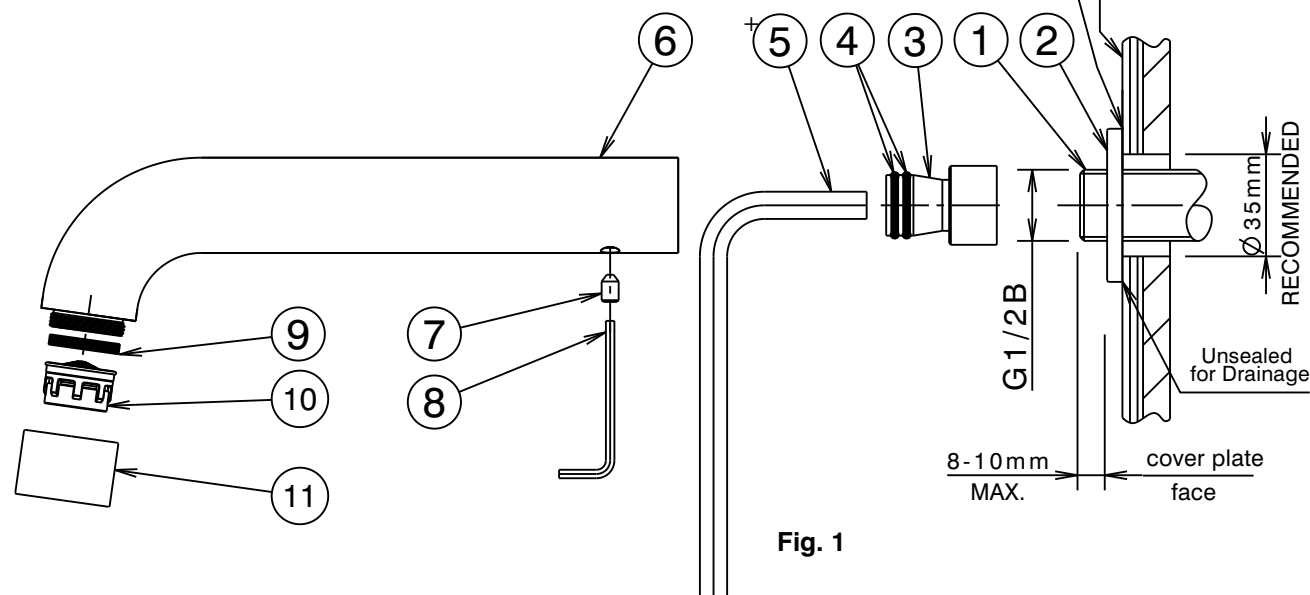

Fig. 1
- 1) Check that threaded nipple (1) is the correct length, as shown. Cut to length if required ensuring end face is square. Apply thread tape to the threaded of nipple (1).
- 2) Apply a suitable clear sealant to the back edge of the cover plate (2), leaving an unsealed section at the bottom for drainage (See Fig. 1). Carefully slide the cover plate (2) onto the threaded nipple (1), push firmly against the cover plate (2) until it contacts the wall/tile face & the sealant has formed a waterproof joint. Wipe clean any excess sealant from the surfaces & the wall/tile face (See Fig. 1).
- 3) Screw the spigot (3) onto the thread of nipple (1) using a 8mm allen key (5+) until the cover plate (2) is held securely against the wall/tile face. DO NOT OVERTIGHTEN. Apply suitable lubricant to 'O'Rings (4). Fit wall outlet (6) onto the spigot (3), then carefully push it firmly against the cover plate (2) while tightening grub screws (7) using the 2.5mm allen key (8) provided. Take care that the aerator insert (10) is pointing downwards as shown (See Fig. 1) before tightening screws (7).